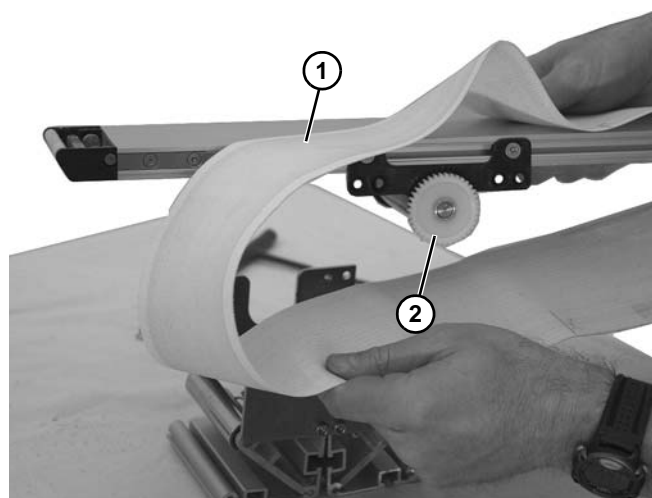

Figure 36
1. Remove belt (**Figure 36, item 1**). See “Conveyor Belt Replacement” on page 11.
2. Remove drive gear (**Figure 36, item 2**) from shaft.